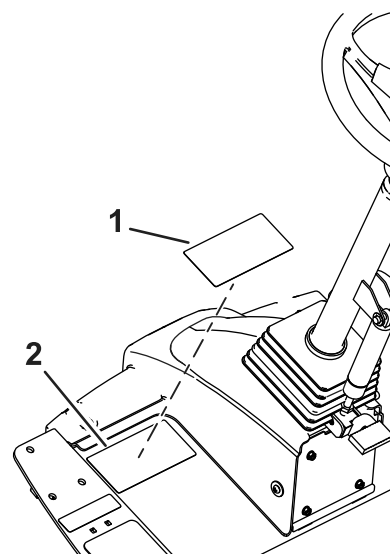

Figure 8
1. Use rubbing alcohol and a clean rag to clean the surface of warning decal, and allow the decal to dry (Figure 8).